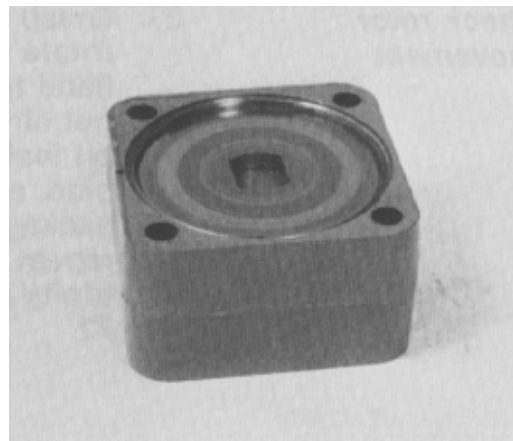

Figure 100
20. Put another piece of the 0.007 in. (0.18 mm) shim stock between the drive plate and each of the three pieces of shim stock already in place. Lift the metering ring and metering package and remove the wood block. Push the metering package and shims into the metering ring until the drive plate and shims are at least flush with the metering ring (Fig. 100).